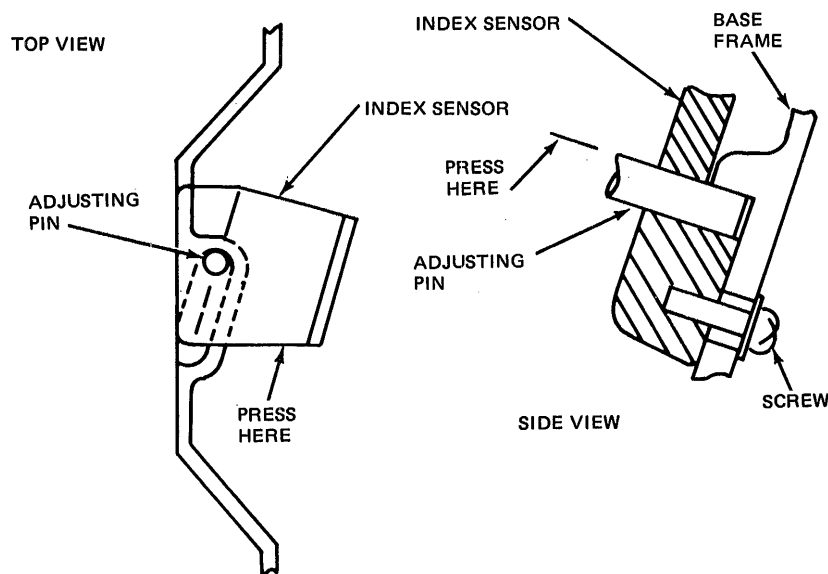

Figure 4-12 Installing the Index Sensor
- d. Push the index sensor so that the adjusting pin touches the adjusting surface of the base frame (see Figure 4-12).